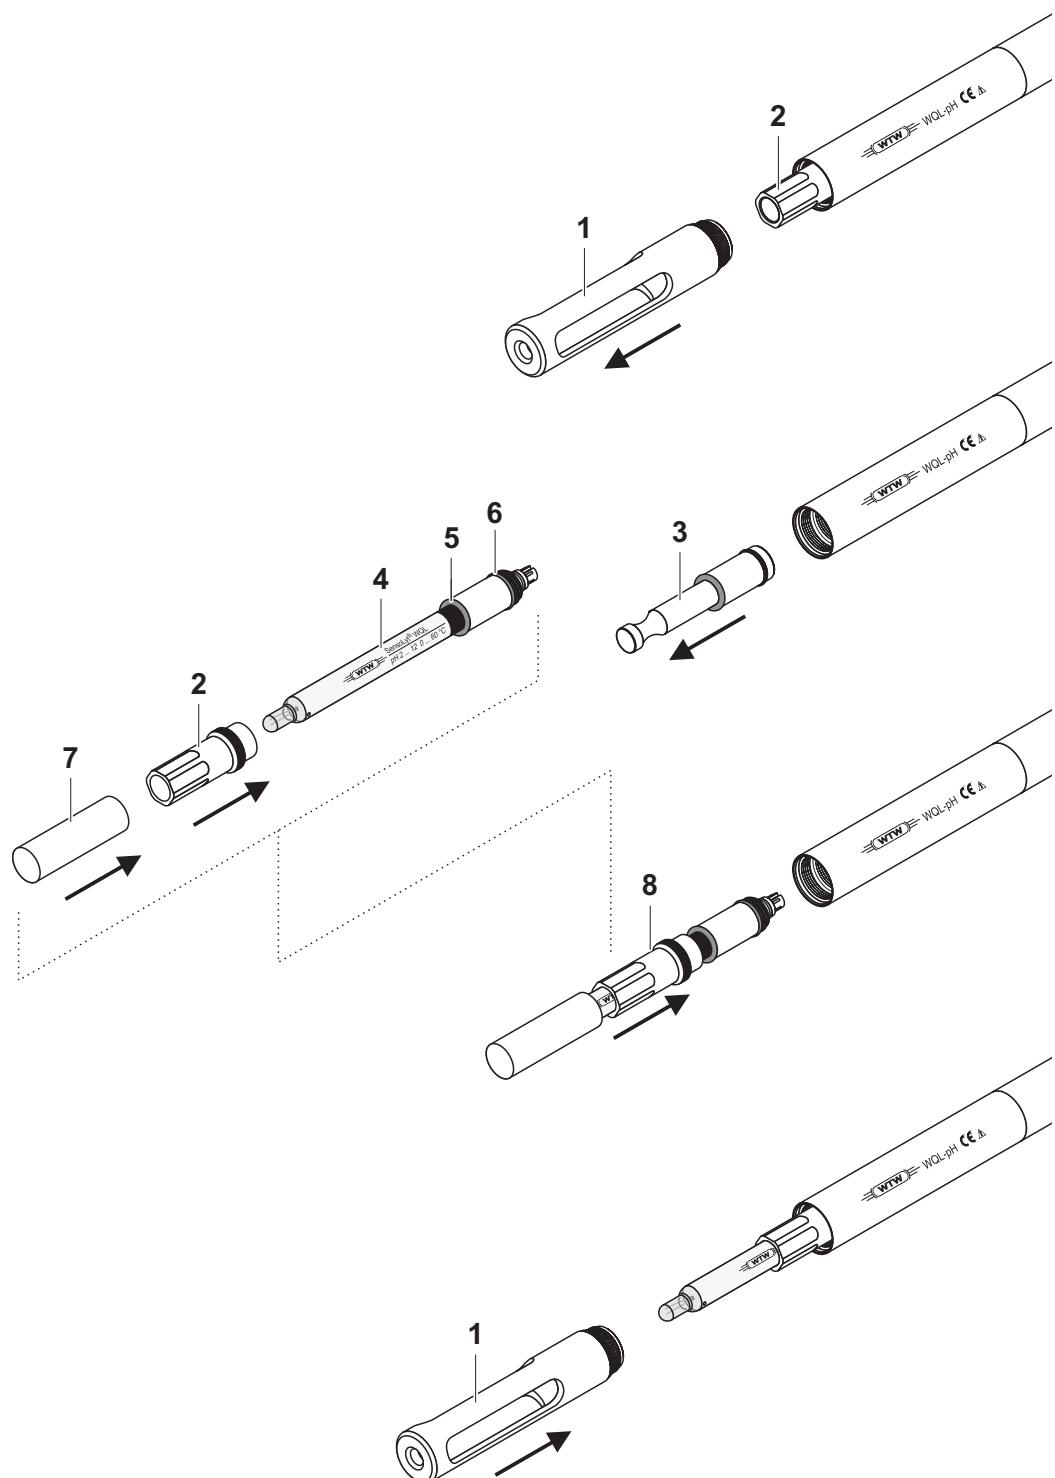

Fig. 3-2 *Installing the electrode*
| 1 | Unscrew the protective hood (pos. 1 in Fig. 3-2). |
8	Screw on the protective hood (pos. 1 in Fig. 3-2).